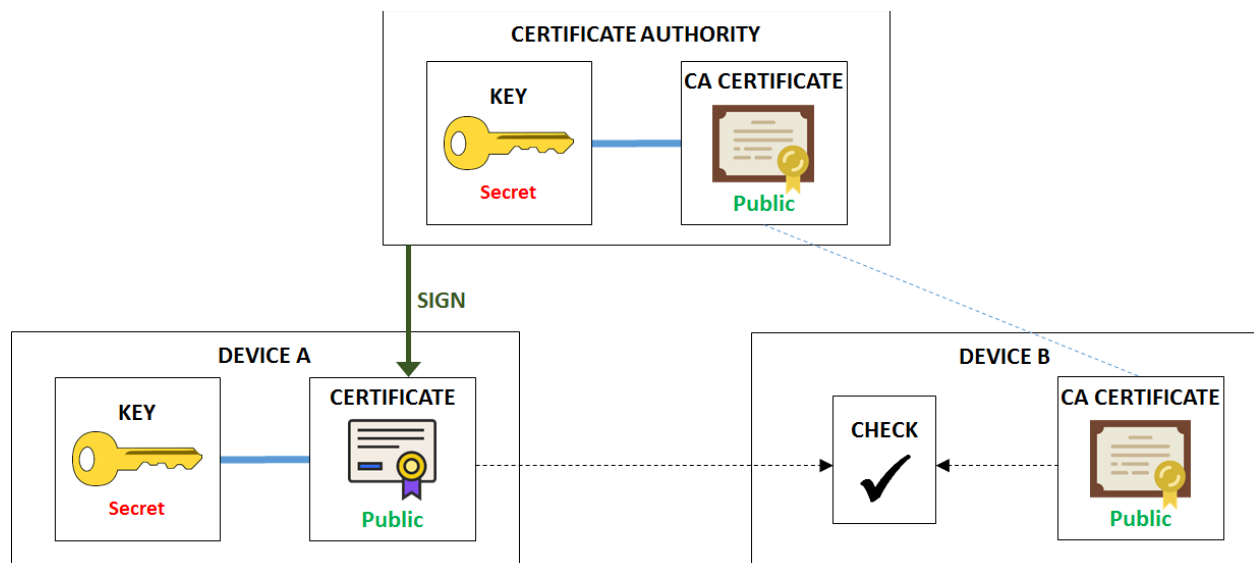
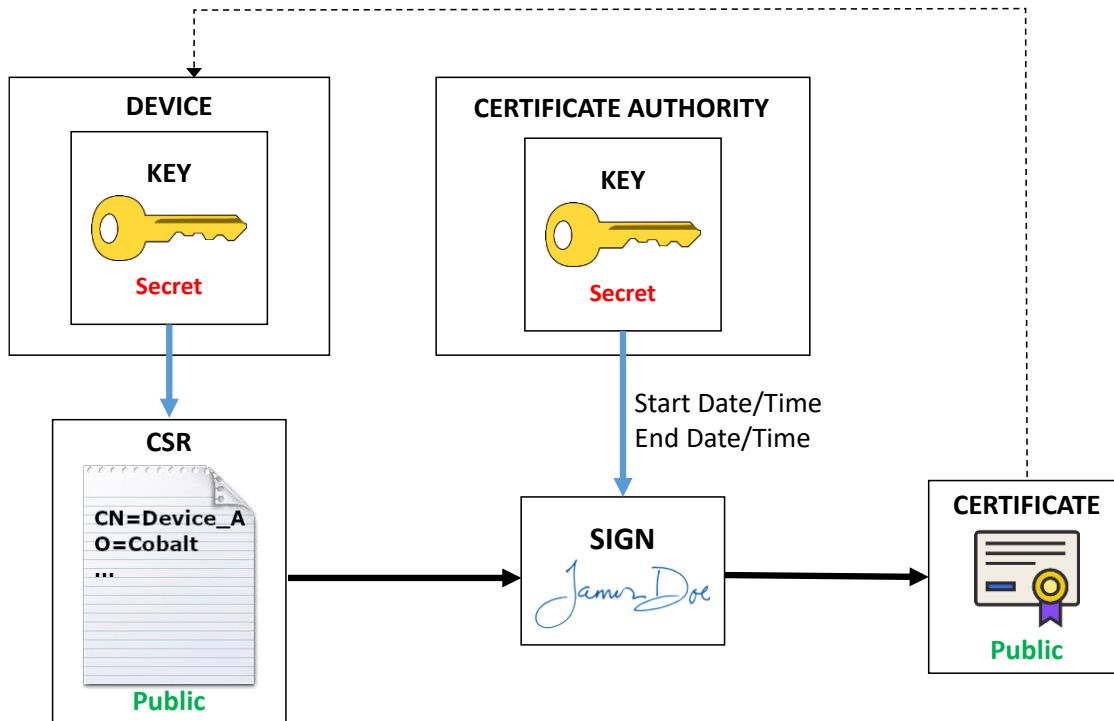
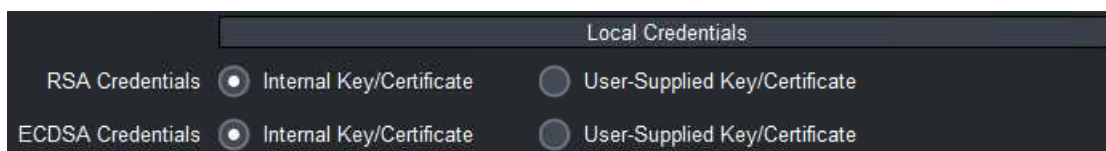

Figure 1: Certificate Checking
Figure 2: Certificate Signing Process
Figure 5: Configuring the Local Credentials
The certificate-based authentication process is illustrated in Figure 1. In this figure, Device B is deciding whether or not it trusts Device A. The same process can happen independently in the other direction. Device B has decided to trust certificates signed by a certain CA, so it has a copy of its CA Certificate, which was transferred to it through some secure means. Device B then receives a certificate from Device A. Unless that certificate matches the key stored in Device A, communication cannot even start. Device B can locally check the CA signature in the certificate coming from Device A against the CA Certificate it has. If that signature matches, and if Device B is prepared to trust the CA, then it will agree to communicate with Device A.
It is possible that a device goes “rogue” – in other words, it used to be authorized, but for whatever reason, it should not be accepted anymore. In Cobalt devices, this functionality is implemented using a list of **blocked devices**. One important field in the certificate is the **Common Name** – i.e., the name of the device. In a web site, this is usually the address of the site, e.g., [www.cobaltdigital.com](http://www.cobaltdigital.com), but it can be any text string. For Cobalt devices, the blocking is done based on the Common Name of the device. Referring back to Figure 1, Device B will execute an additional step after it verifies that the certificate from Device A is valid – it will check that the Common Name is not in a list of blocked devices. If it is, Device B will refuse to communicate, even though the certificate checks out.
Figure 1 shows a certificate that has been signed by a Certificate Authority. In order to be secure, the signing process must not expose the device’s secret key, not the CA’s secret key. The process uses an intermediate file called a **Certificate Signing Request**, or **CSR**. The process is illustrated in Figure 2.
As indicated in Figure 2, the process includes the following steps:
As illustrated in Figure 1, the device needs a matched key/certificate pair to operate. The device's certificate is its identity, presented to remote devices when connecting. Using the DashBoard interface, in the **Authentication** tab, the device can be configured to use either its built-in credentials, or credentials that have been uploaded by the user through the web interface. This is shown in Figure 5.
2. Upload only a certificate that is matched to the internal built-in key. In order to do this, you will need to obtain a CSR from the device itself and get it signed, as illustrated in Figure 2. This process is described in more detail below.
4. Configure the Cobalt device to use the user-supplied credentials, as shown in Figure 5.